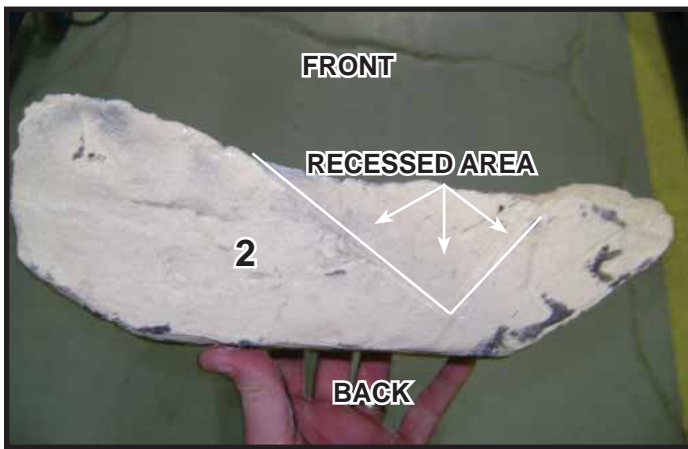

Figure 6. Log #2
**Log #2 (SRV2221-701):** Position Log #2 as shown in Figure 5. See Figure 2 and Figure 6 for additional points of reference. The recessed area on the bottom of the log and the back right corner of the burner top mate.